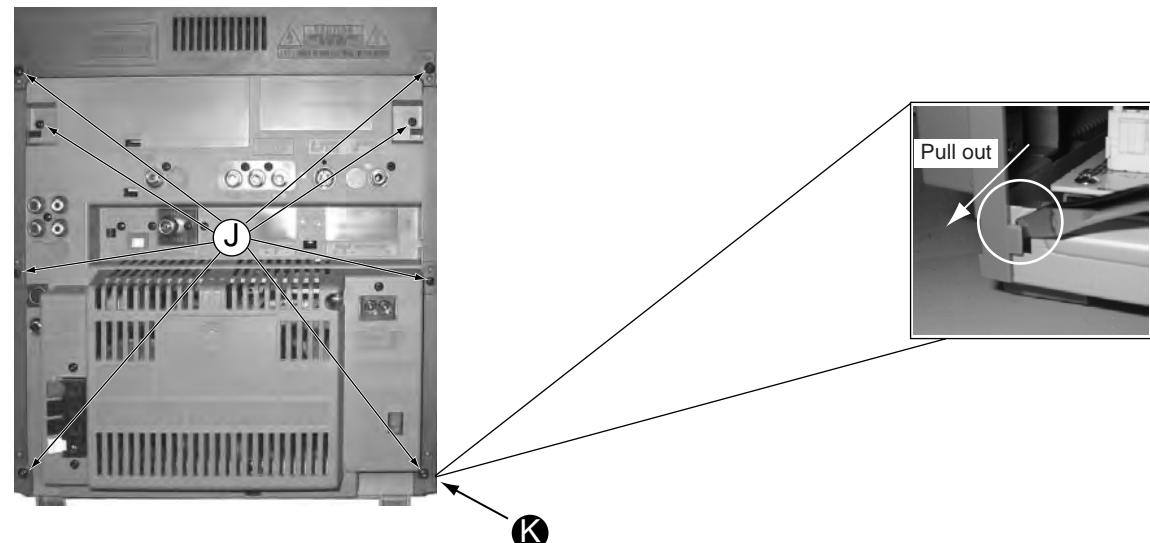

Figure 11
- 1) Loosen 8 screws ' J' to remove the Rear Panel figure 11.
- 3) Release 2 catches ' K' on both sides of the Rear Panel with the help of a minus screw driver and pull out the Rear Panel figure 11.